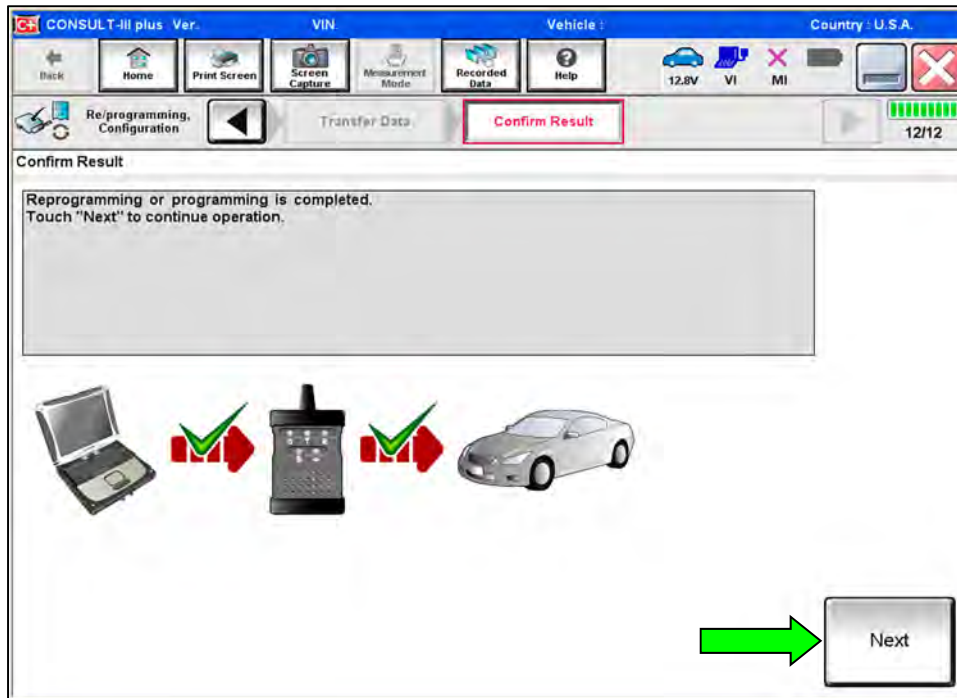

Figure 24
33. When the screen in Figure 24 displays, reprogramming is complete. Disconnect the battery maintainer/smart charger from the vehicle.
HINT: If the screen in Figure 24 does not display (indicating that reprogramming did not complete), refer to the information on the next page.